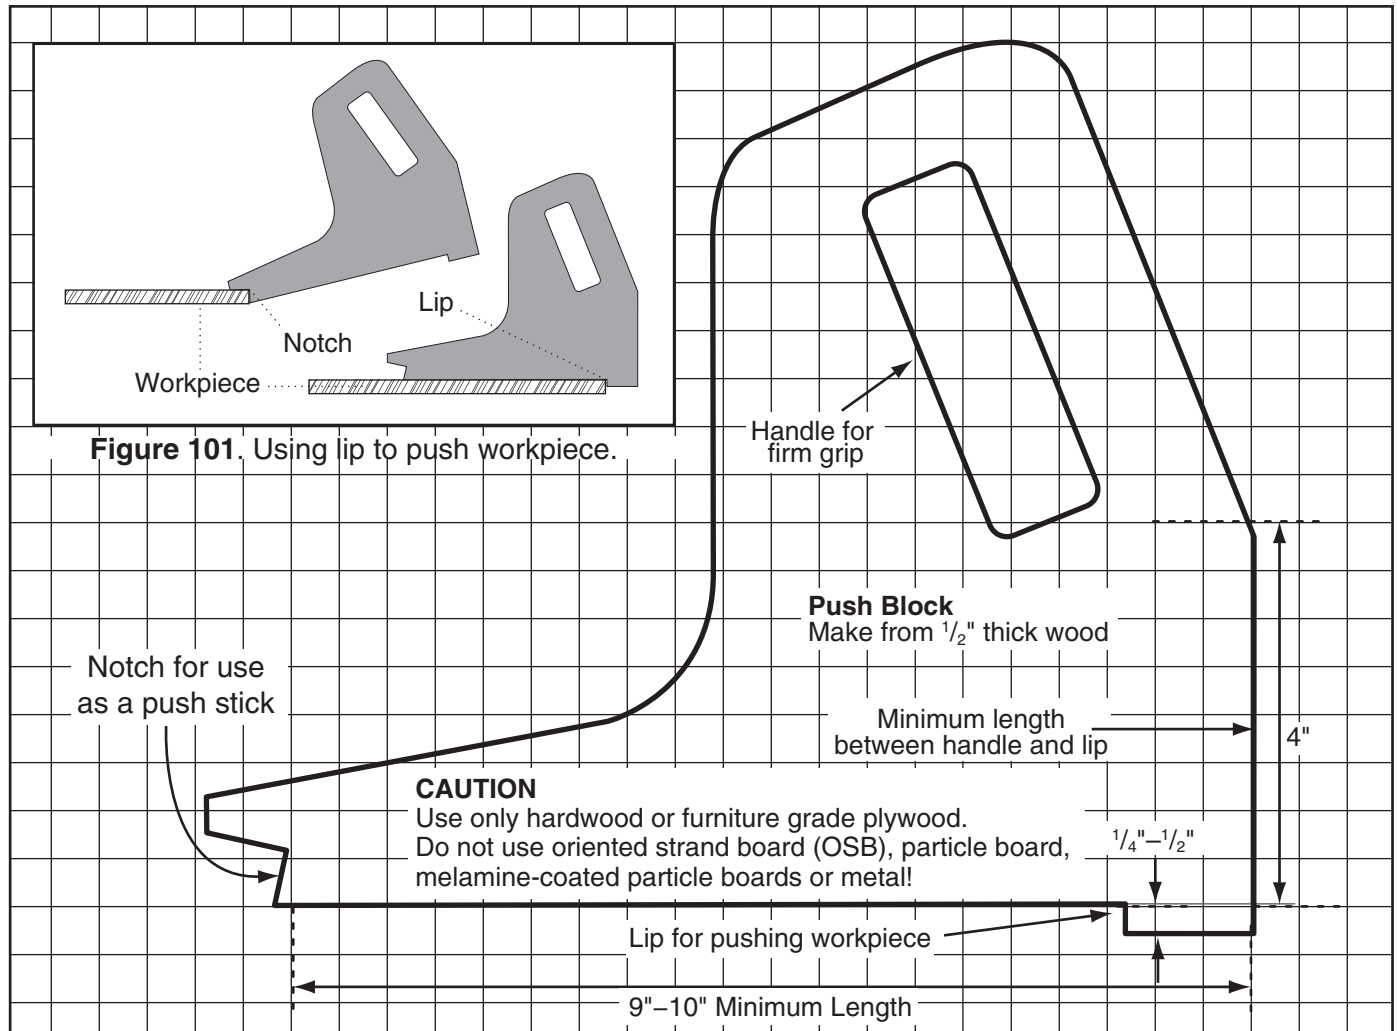
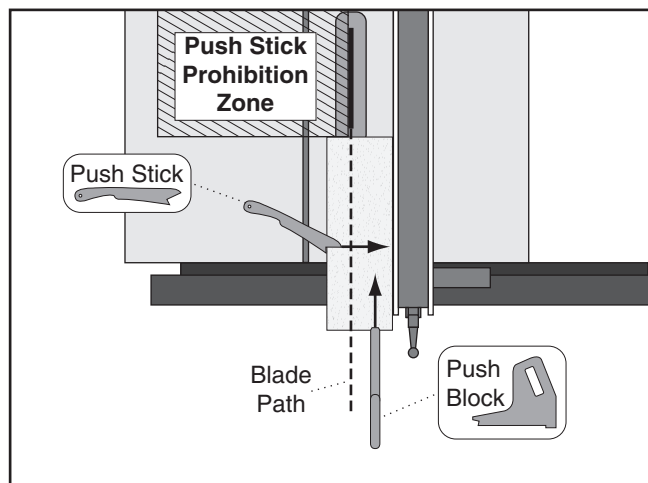

Figure 102. Template for a shop-made push block (shown at 50% of full size).
Figure 103. Example of using a push block to feed a workpiece into the blade.
To make your own push block, refer to the template in **Figure 102** for construction details.
Push blocks must be made using natural wood or furniture grade plywood. The push block must be at least 9"–10" long and the bottom of the handle must be at least 4" above the lip. The pattern for making a basic push block, shown in **Figure 102**, can be laid out on a piece of wood or cut out using a bandsaw, jig saw, or scroll saw. Sand the handle area and edges to increase comfort and safety.
1. Place the lip of the push block (**Figure 102, Page 57**) against the end of the workpiece, and use steady downward and forward pressure to push the workpiece into the blade. Use a push stick to apply sideways pressure on the workpiece to keep it held firmly against the fence, as shown in the example of **Figure 103**).